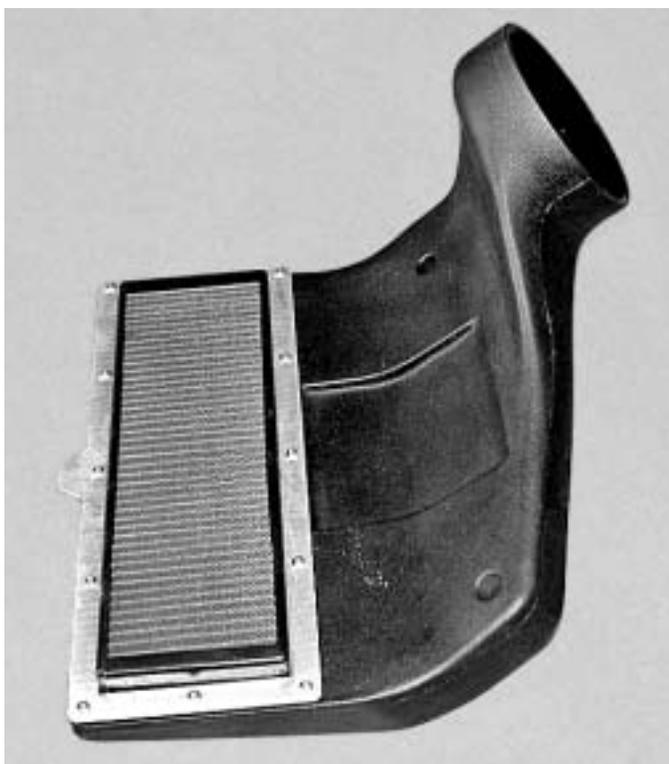

Fig. 10-a
- B. If the air inlet duct is not already assembled, install the metal frame around the air filter element and install onto the air inlet duct using the supplied screws. Install the supplied grommet into the duct. (See Fig. 10-a.)